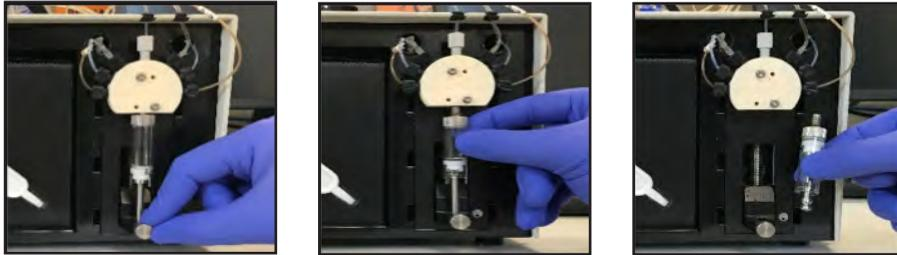

Figure 5.8 Syringe Plunger and Barrel Removal
3. When the syringe plunger is all the way down and the Continue button appears, remove the syringe by loosening the thumb screw at the bottom, then unthread the syringe from the valve assembly to remove it (Fig 5.8).